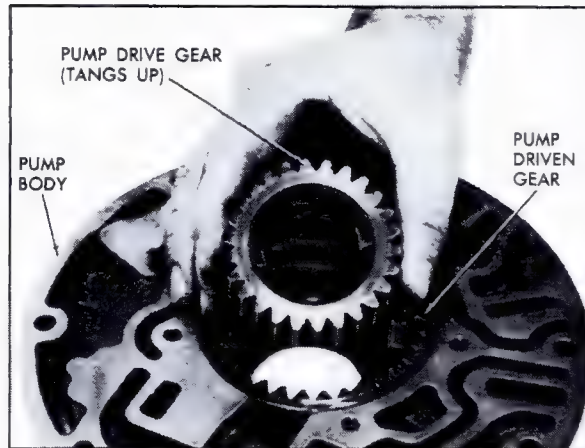

Fig. 7-70 Removing Pump Gears
7. Mark drive and driven gears for reassembly in same position and remove from pump body, Fig. 7-70.